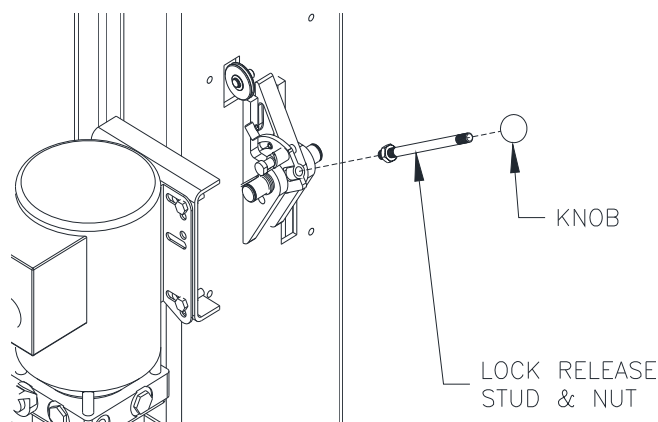

Fig 19– Lock Release Cover
- 36) Attach Lock Release Stud and M10 Hex Jam Nut to Lock Release Cam. See Fig 19.